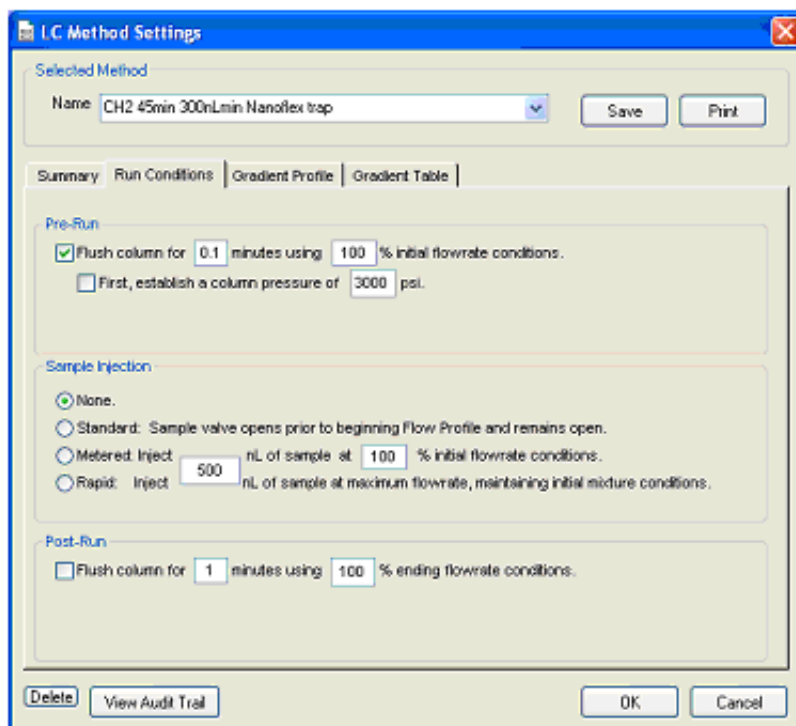

Figure 3-18 LC Method Settings dialog—Run Conditions tab
5. On the **Run Conditions** tab, specify the method as shown in Figure 3-18.